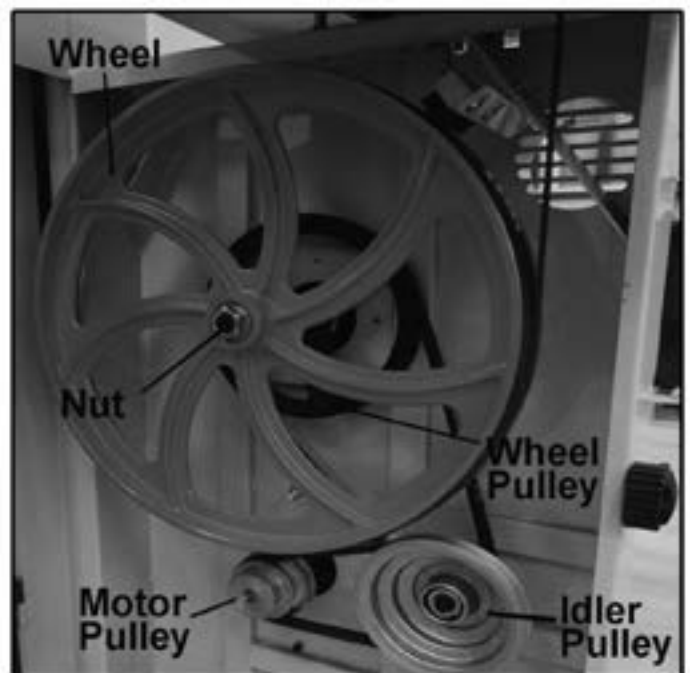

Figure-36 Lower wheel and pulleys
4. Remove the lower wheel by removing the hex bolt securing the wheel to the saw body. See figure-36.